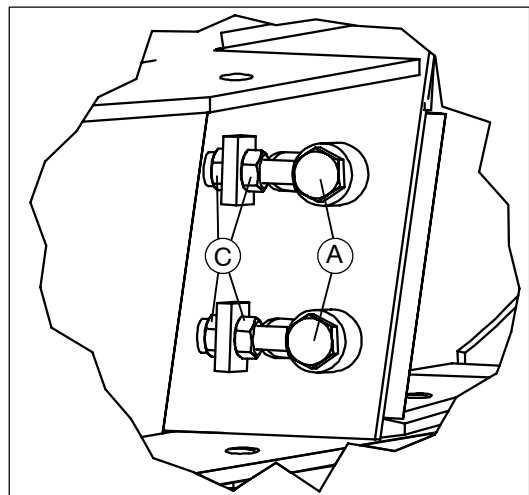

Fig. 18. Vertical anvil fastening and adjustment
2. Turn the disk so that a knife and the anvil are aligned. Place a feeler gauge between the knife and anvil. Adjust the vertical anvil clearance with the adjusting nuts (M12) (C, Fig. 18.) to 1.2–1.5 mm (0.05–0.06").
3. Tighten the adjusting nuts (C) and anvil fastening bolts (A).
5. Tighten the fastening bolt (B).